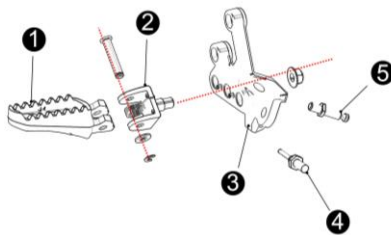

Fig 37
11.8 Disassemble pedal assembly (see Fig 37)